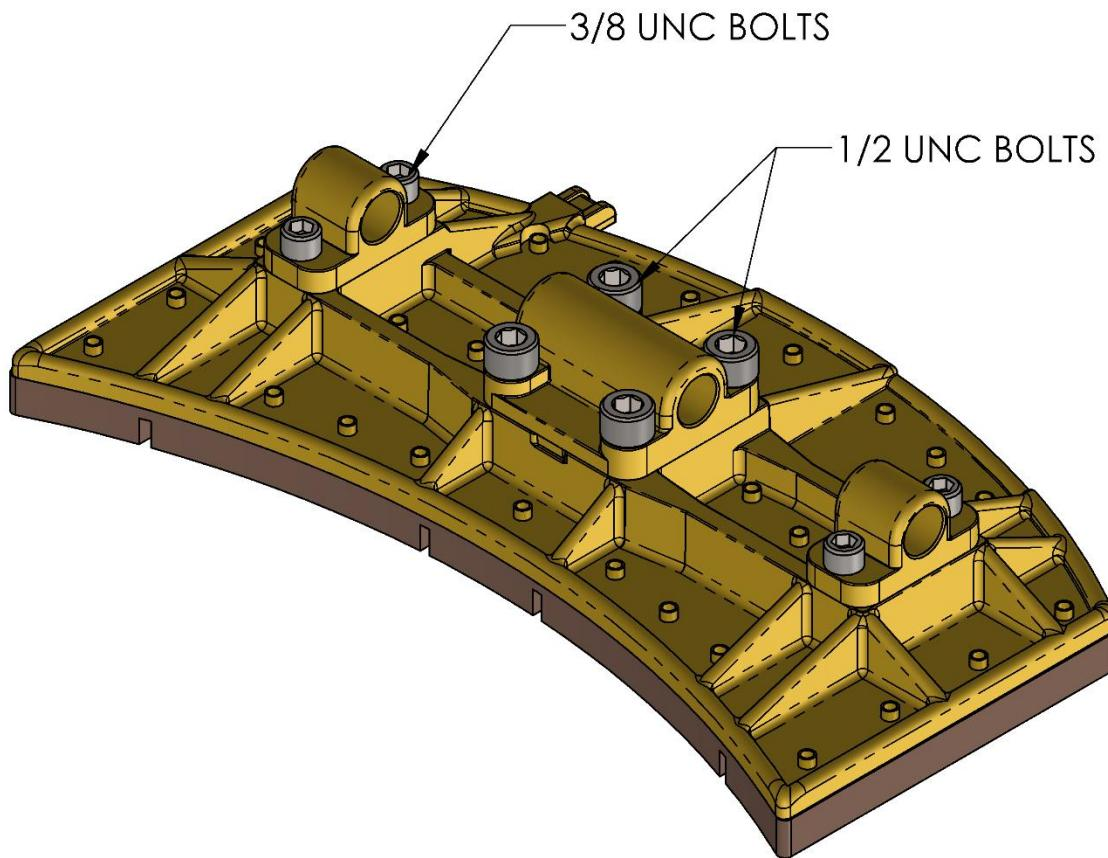

*Figure 6: Inspecting lever shoe pin bore*
5. Refer to Figure 6 for the next 3 steps.
11. Inspect the lever shoe pin bushing bores for signs of wear and damage as shown in Figure 6. The lever shoe pin bore must not exceed the specified diameter given in Table 9. If needed, replacement levers can be ordered from the factory.